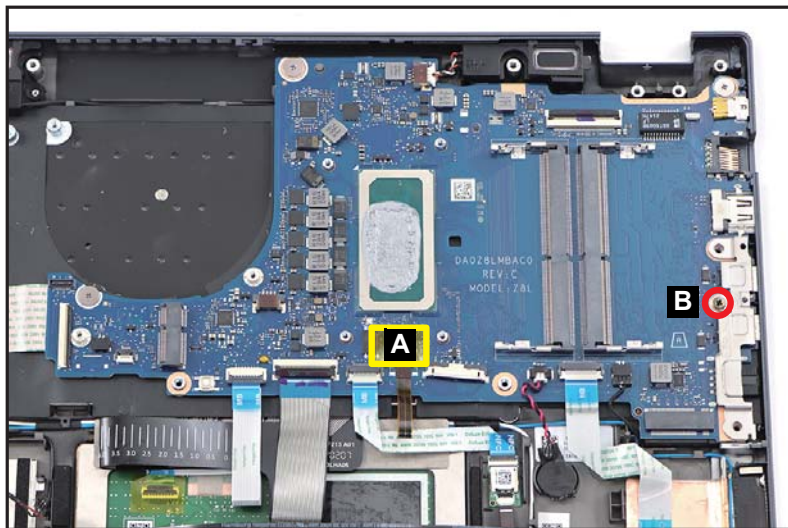

Figure 1-40. Mainboard Removal
1. Detach the tape (A) securing the keyboard backlight FPC connection (Figure 1-40).
2. Remove one (1) screw (B) from the I/O bracket (Figure 1-40).